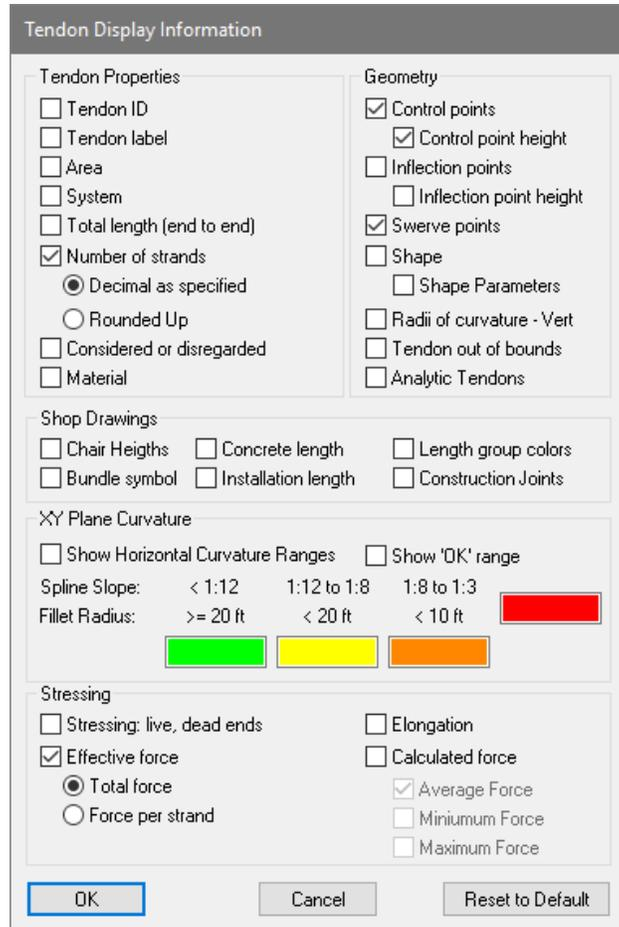
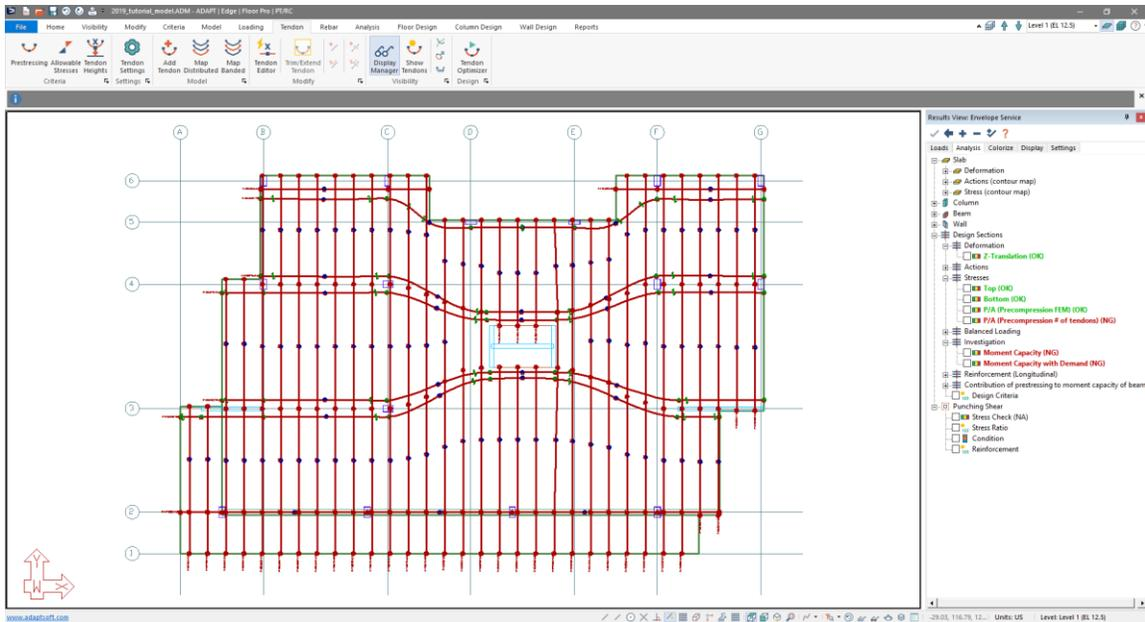

Figure 9-118
Figure 9-119
- Go to *Tendon* → *Visibility* and click on the *Display Manager*  icon to open the *Tendon Display Manager* window shown in **FIGURE 9-118**.
- Make the selections as shown in **FIGURE 9-118** and click the *OK* button. The users screen will appear as shown in **FIGURE 9-119**.